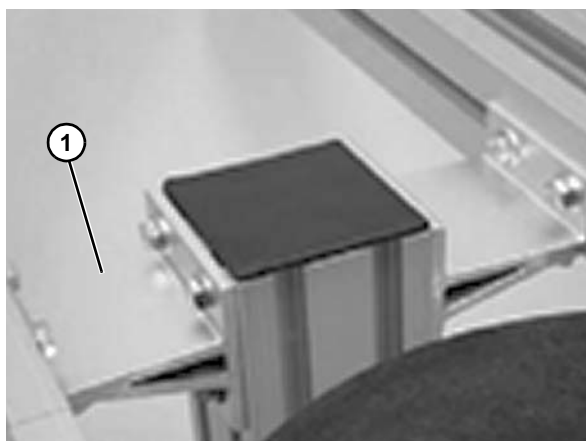

Figure 16
Dual side mounting brackets (**Figure 16, item 1**) are used to support 180° wheel corners.